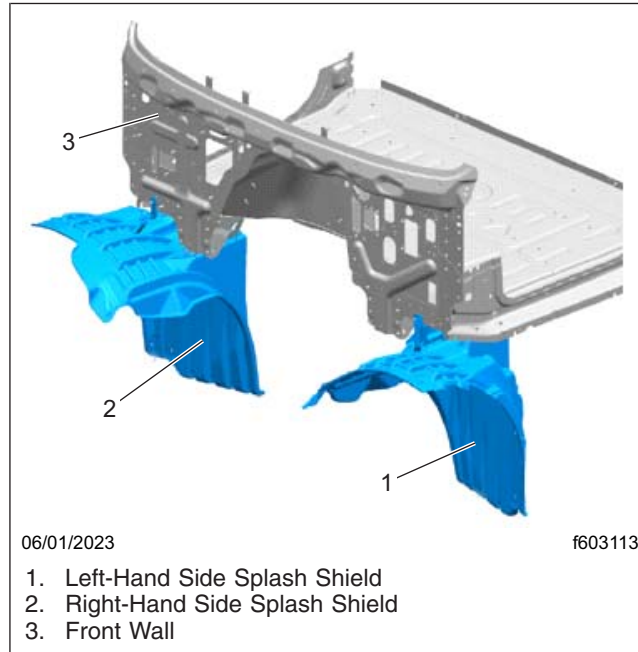

Fig. 1, Cab-Installed Splash Shield
3. Remove the front wheel splash shield. For instructions, see **Section 88.01, Subject 100** of the *New Cascadia Workshop Manual*. Figure 1 shows the location of cab-installed splash shields.